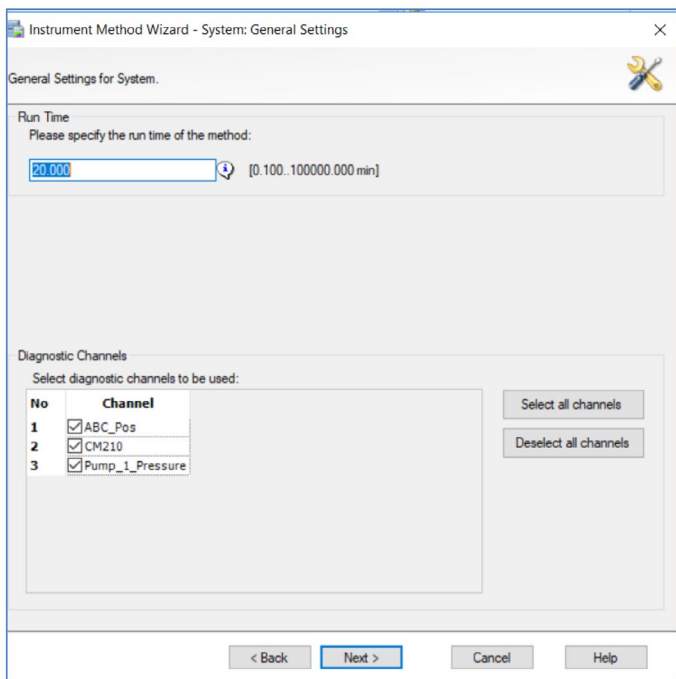

Figure 16. Creating the Instrument Method: Selecting all channels
9. Create an Instrument Method using the Chromeleon Method Wizard. Select all diagnostic channels (Figure 16).